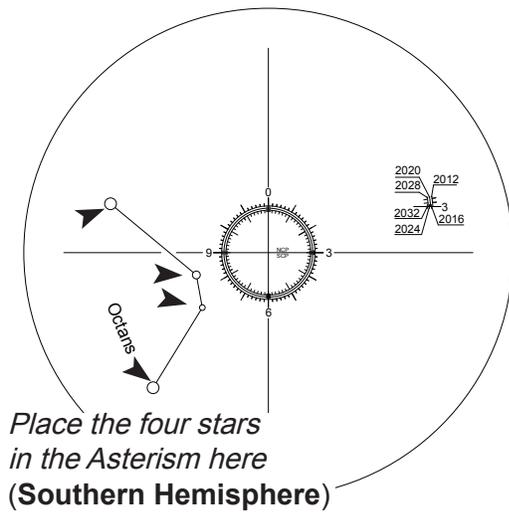

Fig. 3.2a
Once the polar scope is illuminated, the pattern in the above figure (Fig. 3.2a) should be visible in the field of view (FOV) of the polar scope. If the image appears blurred, rotate the knurled ring of the polar scope's eyepiece to focus.
- 2. For observing in Southern Hemisphere:** In the FOV of the polar scope, locate the 4 dim stars (Around Magnitude 5 to 6) which form the pattern like the "Octans" drawing in the polar scope (refer to Fig. 3.2a). Loosen the R.A. clutch and rotate the R.A. axis to align the orientation of the "Octans" drawing to the 4 stars. Then use the spring loaded handle and the azimuth adjustment knobs to move the 4 stars to the 4 small circles of the "Octans" drawing.
As the Polaris is not located exactly at the North Celestial Pole, we can see it orbits the North Celestial Pole in a polar scope. The central circles seen in Fig. 3.2a is a representation of the Polaris' orbit around the North Celestial Pole. When polar aligning the AZ-EQ5 mount, it is necessary to determine the orientation of the Polaris on the circle. We can use the following 2 methods to get the orientation:
2. At the end of the initialization of the SynScan hand control, after entering the proper local longitude, latitude, date, time, and daylight-saving time, the SynScan hand controller will display the message: "Polaris Position in P.Scope=HH:MM". Imaging the circles in Fig. 3.2a as a clock's face with 12:00 at the top, with the current time pointing to the "HH:MM". The orientation of the hour hand of the clock represents the orientation of the Polaris in the polar scope. Put the Polaris in the same orientation on the large circle to finish the polar alignment.